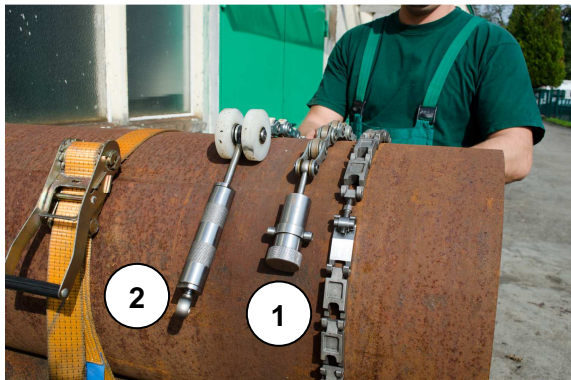

Fig. 3.1
3. When using the small guide carriage (1) (see fig. 2.1), please use the small chain tensioner (1) (see fig. 3.1 and 3.4). When using the large guide carriage (2) (see fig. 2.1), please use the large chain tensioner (2) (see fig. 3.1 and 3.5).